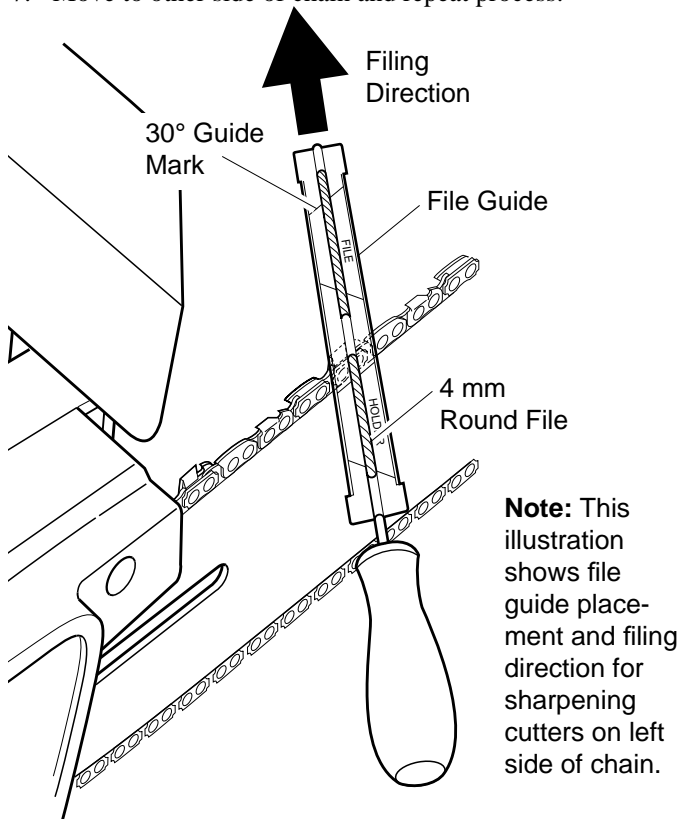

Figure 20 - File and File Guide Placement On Chain
3. Press four millimeter round file (attached to file guide) into groove between top plate and depth gauge on chain. File guide should rest on both top plate and depth gauge (see Figures 20 and 21). **Note:** File at midpoint of guide bar.
4. Hold file guide level. Make sure 30° mark on file guide is parallel to center of guide bar (see Figure 20). This will insure that you file cutters at 30° angle.